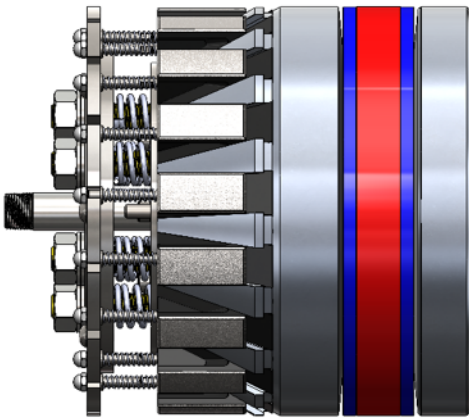
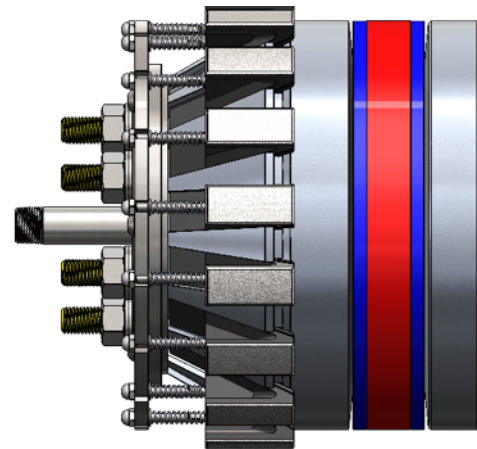

Figure 3: Not Ready to Install
Figure 4: Ready to Install
- The GripSafe ST Outboard Retraction Blocking NPS 4” to 12”, 14” SCH 60-160, and 16” SCH 120-160 plugs should be in the “Ready to Install” position from the factory, see Figure 4.
- Ensure the **Compression Hex Nuts(19)** are tightened to the point where the **Spring Plate Hub(18)** is in the Compressed state, see Figure 4, and is flush with the **Retainer Plate(16)**.
- In the Compressed state show in Figure 4, the GripSafe ST Plug will immediately grip the pipe upon insertion.
- 6.5 If insertion into the pipe proves problematic in the Compressed state, shown in Figure 4, it may be advantageous to insert the plug in the Retracted state, shown in Figure 3. To do so, loosen all **Compression Hex Nuts(19)** to the top of their respective **Compression Shafts(6)**. Care should be taken to not completely remove the **Compression Hex Nuts(19)** from the assembly. In this orientation, the **Wedge Grippers(4)** will be fully retracted and the plug can be inserted freely into the pipe.
NOTE: Plugs that are fitted with SWAT have an opposite "Ready to Install" than those plugs that are not fitted with it. In Figure 4, "Ready to Install" shows a plug that is in the **(Compressed)** state, **Spring Plate Hub(18)** is flush with the **Retainer Plate(16)**. However, plugs that are fitted with SWAT must be in the "Retracted" state that is shown in both Figures 3 and 11. If the plugs that are fitted with SWAT are in the **(Compressed)** state, all of the **Wedge Grippers(4)** will be energized and inserting the plug into the pipe will require more force than practical.